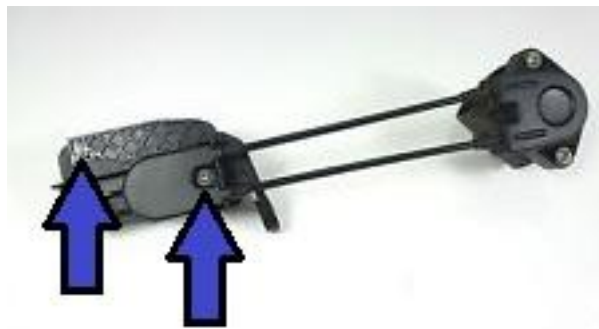

Figure 2
6. Position the servo so that its rear side is visible. Using a T25 Torx wrench, remove the two screws securing the servo pulley cover to the rear of the NCV actuation servo (Blue arrows, Figure 2). Slide the pulley cover off the NCV actuation servo.
1. Slide the servo pulley cover onto the NCV actuation servo. Using a T25 Torx wrench, fasten the two screws securing the servo pulley cover to the servo (Blue arrows, Figure 2).